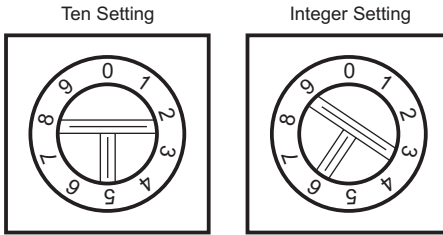

Figure 9: Rotating switches with address 01
- 3) Set the node address by using the two rotating switches on the communication board. The left rotating switch sets the first address digit and the right rotating switch sets the second address digit (figure 9);